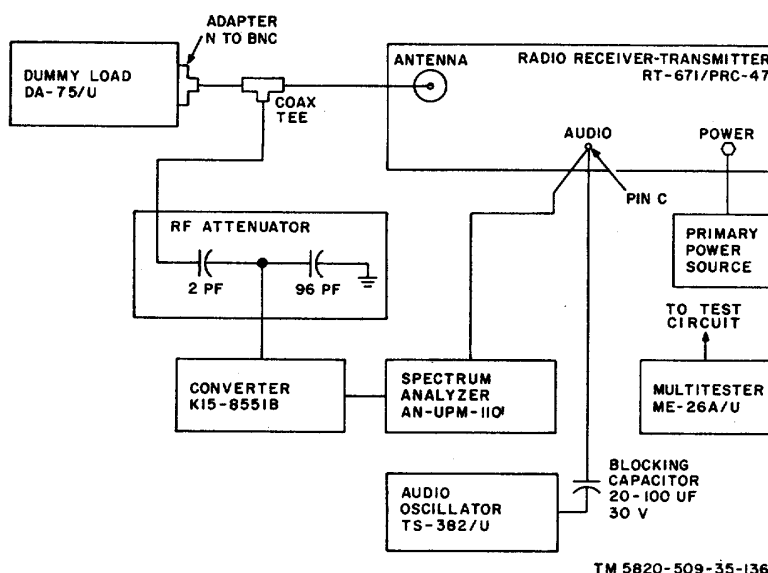

Figure 5-2. Transmitter Hum Balance Adjustment and modulation Fidelity Test, Equipment Setup.
(fig. 5-2)
- (1) Spectrum Analyzer AN/UPM-110
- (2) Converter. Hewlett-Packard K15-8551B
- (3) Dummy Load NA-75/U
- (4) Attenuator (see fig. 5-2).
- (5) Multimeter ME-26A/U
- (6) Audio Oscillator TS-382/U
- (7) Primary power source: 115-volt, 400-Hz, single-phase, 3 amp.
(1) Connect the test equipment to Radio Receiver-Transmitter RT-671/PRC-47 as shown in figure 5-2. Do not connect ME-26A/U until instructed to do so.
(2) Connect the primary power source to the receiver-transmitter.
(3) Turn on the test equipment and place the POWER-LIGHTS switch on the RT-671/PRC-47 to POWER ON. Permit the equipment to stabilize for at least 5 minutes before beginning the procedures listed in the chart below.
- (2) Converter, Hewlett-Packard K15-8551B
- (3) Dummy Load DA-75/U
- (4) Attenuator (see fig. 5-2)